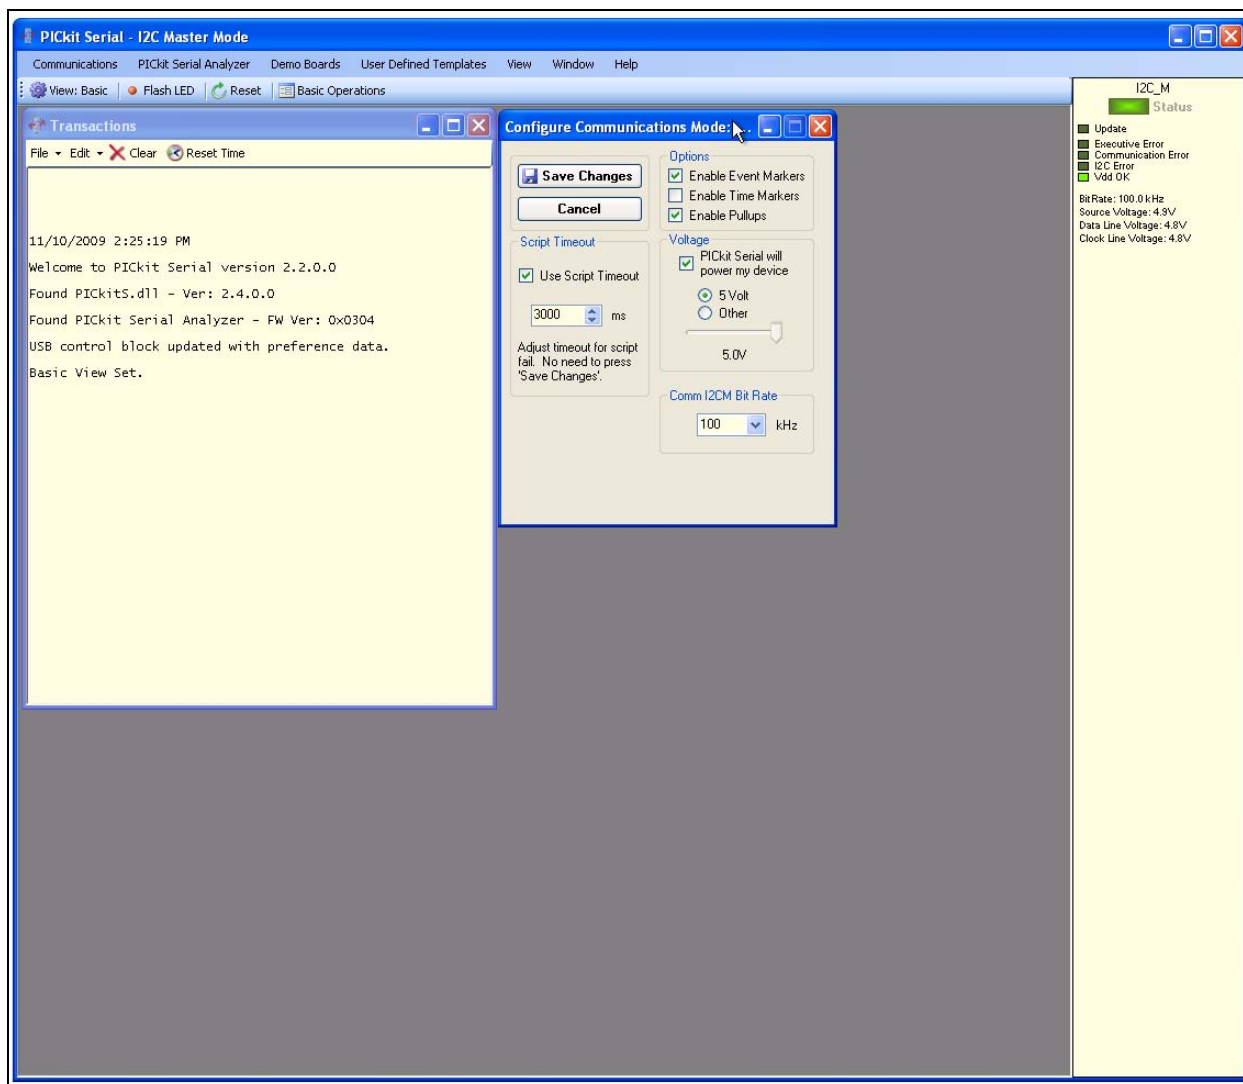

FIGURE 2-6: PICkit Serial Configure Communications Mode Window.
Figure 2-6 shows the Configure Communications Mode window. Ensure that your window options and settings are the same as in this window, and then select the “Save Changes” button.
5. Ensure that the Master I²C configuration is appropriately configured (see Figure 2-6).